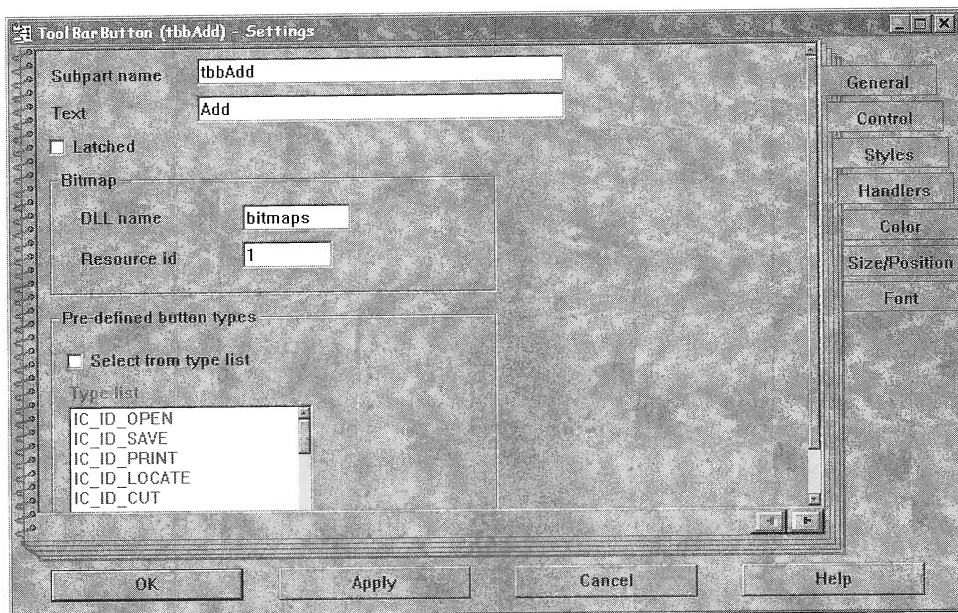

Figure 73: Selecting the bitmap for the tool bar button
- ☐ On the General Page of the setting notebook as shown in Figure 73, scroll down to the **Bitmap** group box.